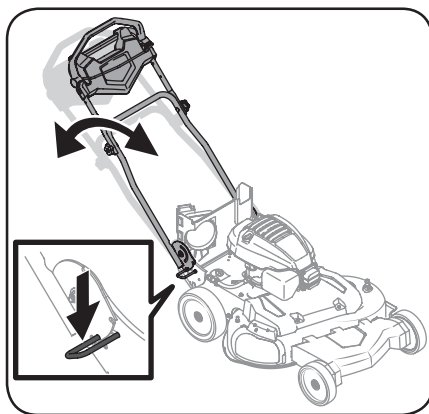

Figure 2-3
4. The handle height can be adjusted to one of two positions. Push down on the handle adjustment lever with your foot and place the handle into the most comfortable operating position. See Figure 2-3.